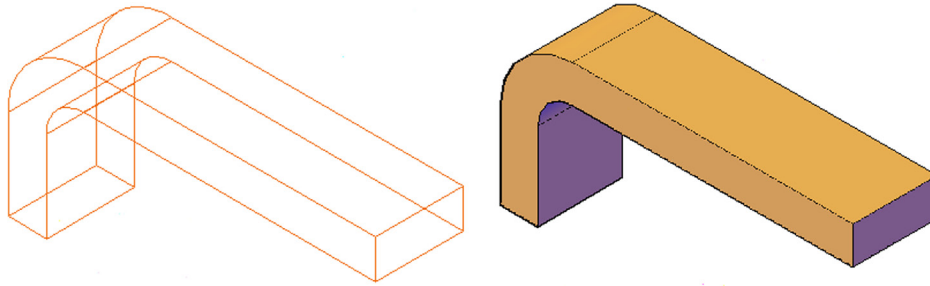

FIGURE 24.41
Step 3. Select the path and the sweep is produced, as seen shaded and colored in the SE Isometric view in Figure 24.41.